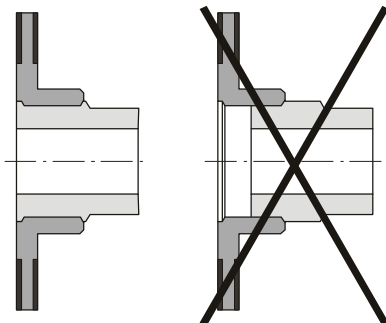

Fig. 5
The rotor (4) must be placed onto the hub (1) so that the toothing remains engaged even after wear on the friction linings (Fig. 5).